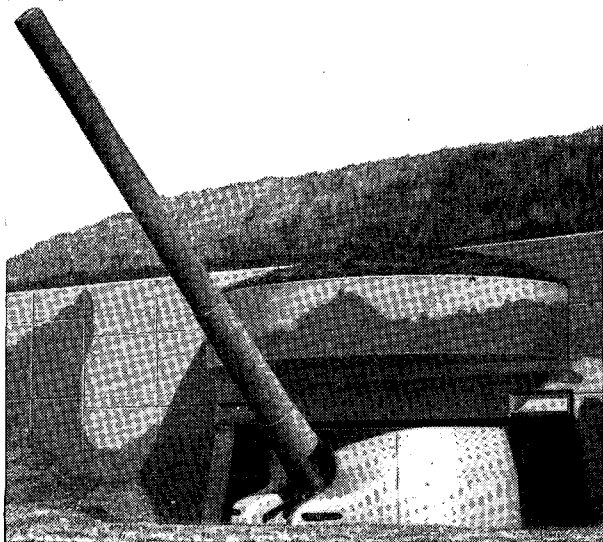

Figure 1. 16-inch casemated gun.
1. SCOPE. a. This manual prescribes the service of the piece for all 16-inch casemated guns (fig. 1). Most of the guns are the Mk. II M1 Navy type on the M1919M1, M2, M3, M4, or M5 carriage. However, some of the M1919MII and M1919MIII Army type guns on the M1919 carriage have been modified and casemated.